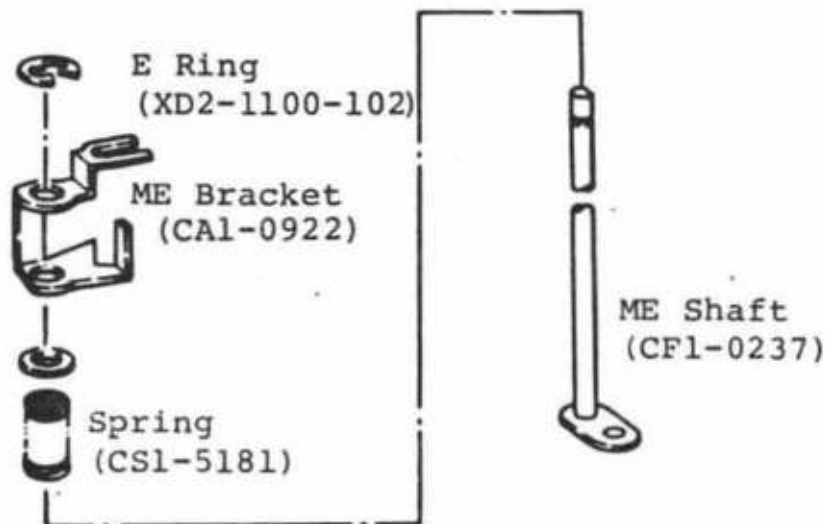

Fig. 2-25
2. Install the parts as shown in figure 2-25.